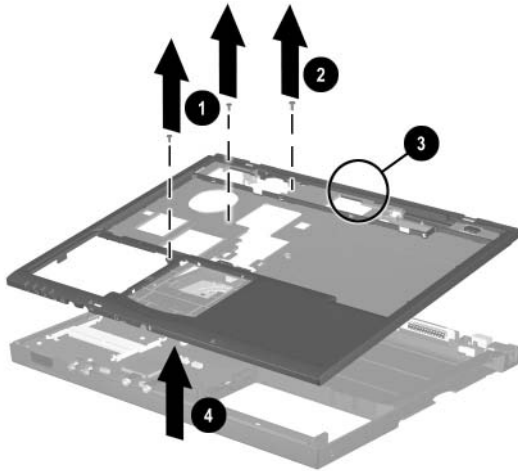

Figure 5-21. Removing the Top Cover
5. **For Evo Notebook N620c, N610c, N610v models only**—Remove the two TM2.0 × 4.0 ❶ screws that secure the top cover to the base enclosure (Figure 5-21).
6. **For all notebook models**—Remove the TM2.5 × 7.0 ❷ screw that secures the top cover to the base enclosure.
7. Insert a flat blade screwdriver into the slot ❸ on the rear edge of the top cover to disengage the cover from the I/O bracket.
8. Lift the top cover straight up and remove it from the base enclosure ❹.